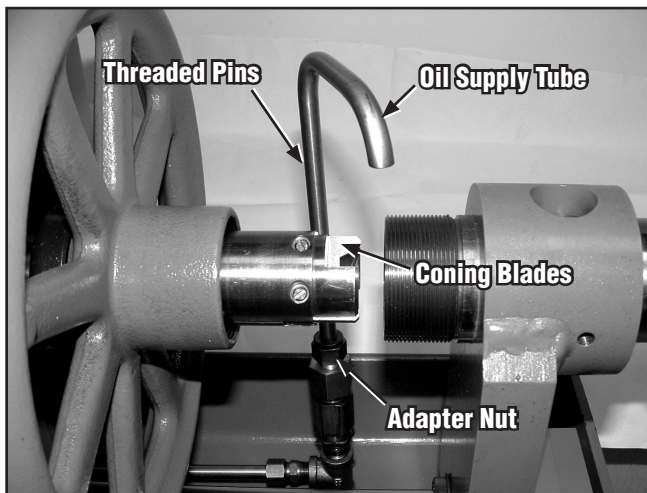

Figure 3
- 4.4 Loosen the adapter nut securing the cutting oil supply tube in order to rotate or remove the tube to have access to install or remove the blades (Figure 3).